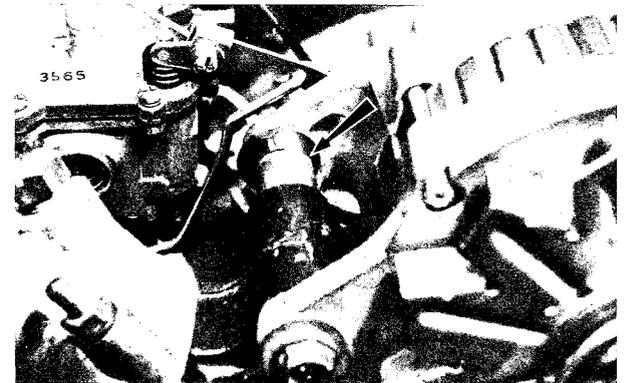

Fig. 5-12 Adjusting alternator fitting
1. Place the alternator to the bracket with the bolt, and check the clearance as shown in Fig. 5-12.